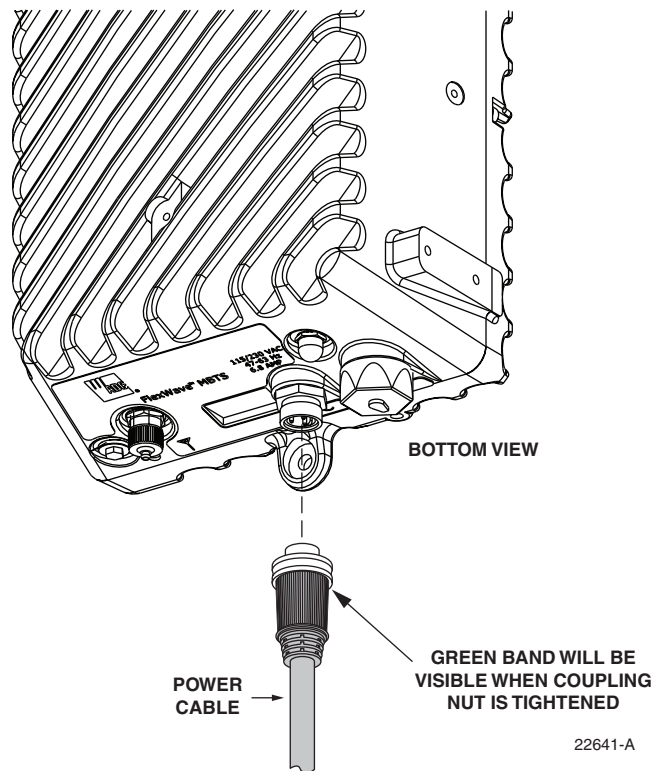

Figure 16. Connecting AC Power Cable to Enclosure
9. Remove the dust cap from the AC power port located on the bottom of the enclosure as shown in Figure 16.